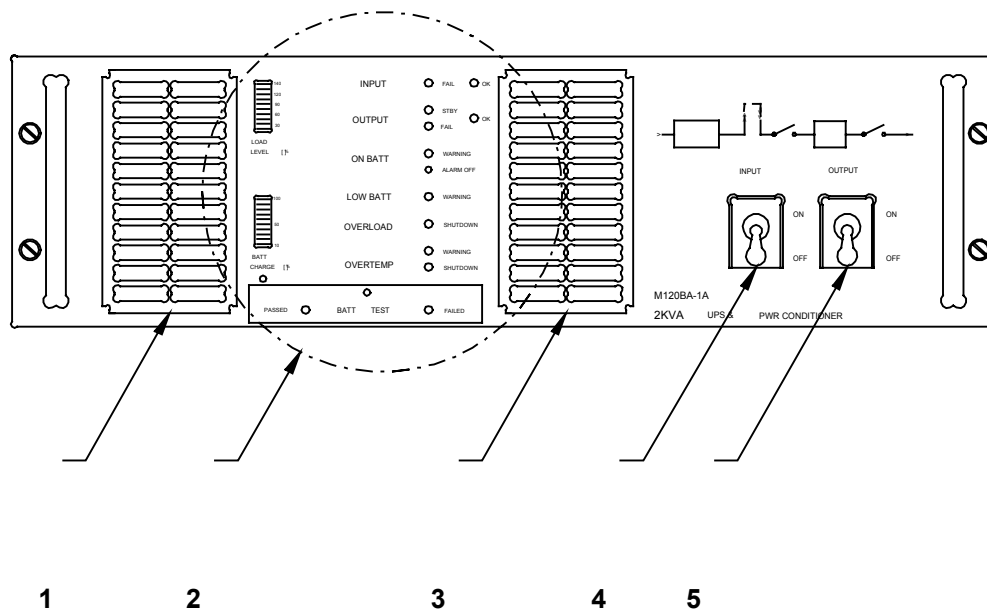

Figure 4 - Front Panel: Main Components
4.1 Front Panel: Main Components (See Figure 4)
6. Operation, Controls and Indicators (ref. Figures 4 and 5)